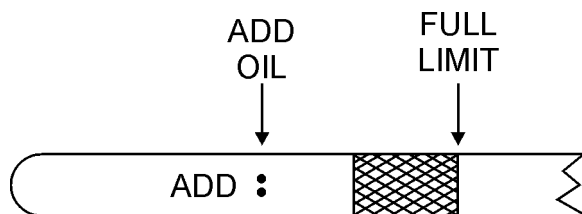

Figure 8. Oil Dipstick
3. If the oil level is low, add oil through the oil filler hole. **DO NOT** overfill. Fill to the normal operating level as shown on the dipstick. Verify that the oil level is maintained between the two notches as shown in Figure 8. Always fill with recommended type oil as listed in Table 4. See Table 2 for engine oil capacity.